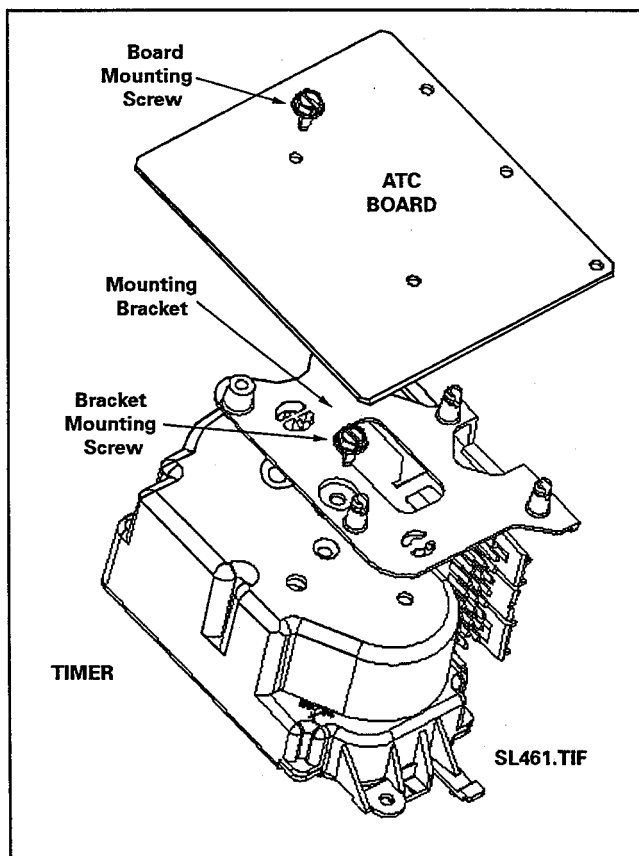

Figure 4-8
2. See *Figure 4-8* for additional assistance.